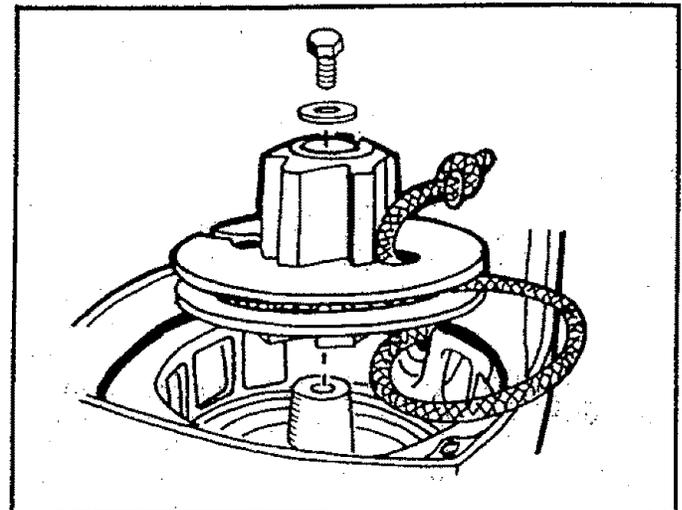

Figure 52
8. Remove the pulley screw in the center of the pulley. Figure 52.
13. Feed the rope through the housing and through the round starter hole. Figure 52.